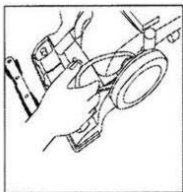

Fig. 3
- Place one end of new belt over motor shaft and the other on the round pulley end of the beater bar. (Fig. 3)